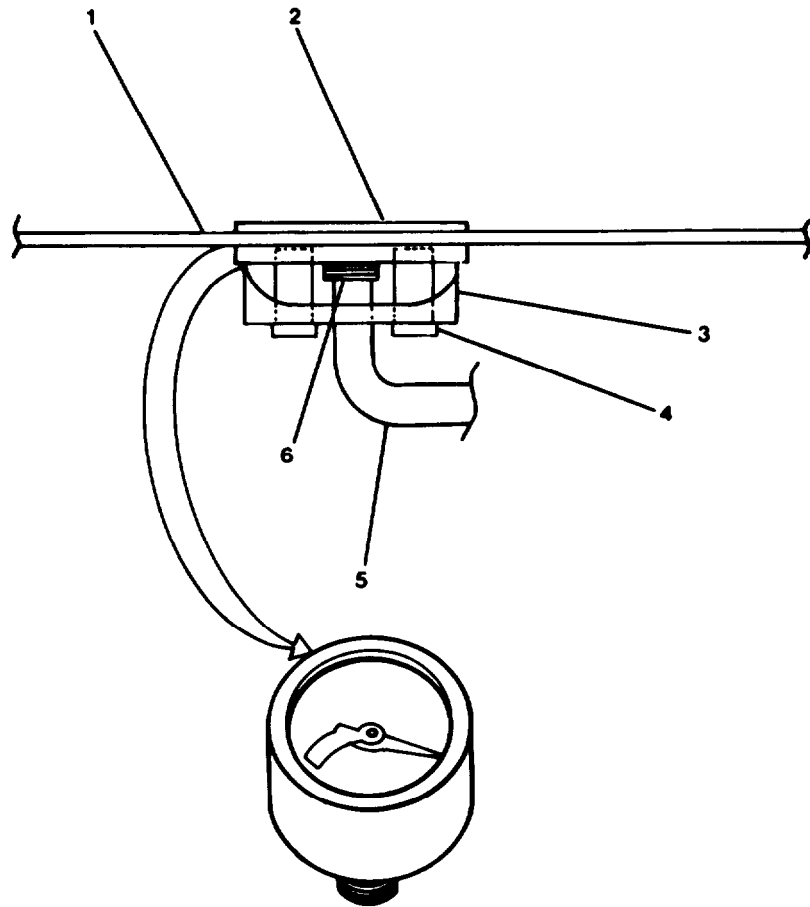
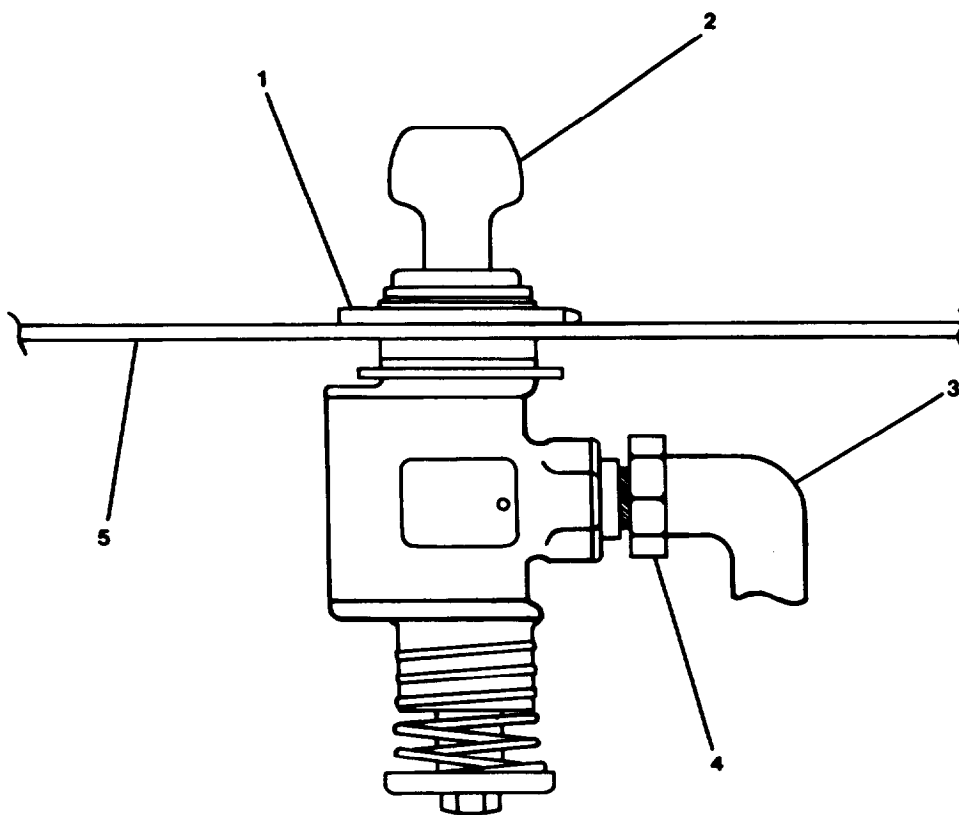

FIGURE 2-94. Venturi Meter, Removal.
FIGURE 2-95. Linear Directional Valve. Removal.
- a. Remove Venturi Meter. (FIGURE 2-94)
- (1) Open access panel to pilothouse control console.
- (2) Inside pilothouse control console, remove two hex head capscrews (4), slide bracket (3) down on tube (5).
- (3) Disconnect tube (5) at connection (6).
- (4) Remove venturi meter (2) from control console (1).
- b. Remove Linear Directional Valve. (FIGURE 2-95)
Repair at this level of maintenance is by replacement of venturi meter (2, FIGURE 2-94) and linear directional valve (2, FIGURE 2-95).
- a. Replace Venturi Meter. (FIGURE 2-94)
- (1) Seat Venturi meter (2) in pilothouse control console (1).
- (2) Apply teflon tape to connection (6).
- (3) Connect tube (5) at connection (6).
- (4) Slide bracket (3) up tube (5) and secure to control console with two hex head capscrews (4).
- b. Replace Linear Directional Valve. (FIGURE 2-95)